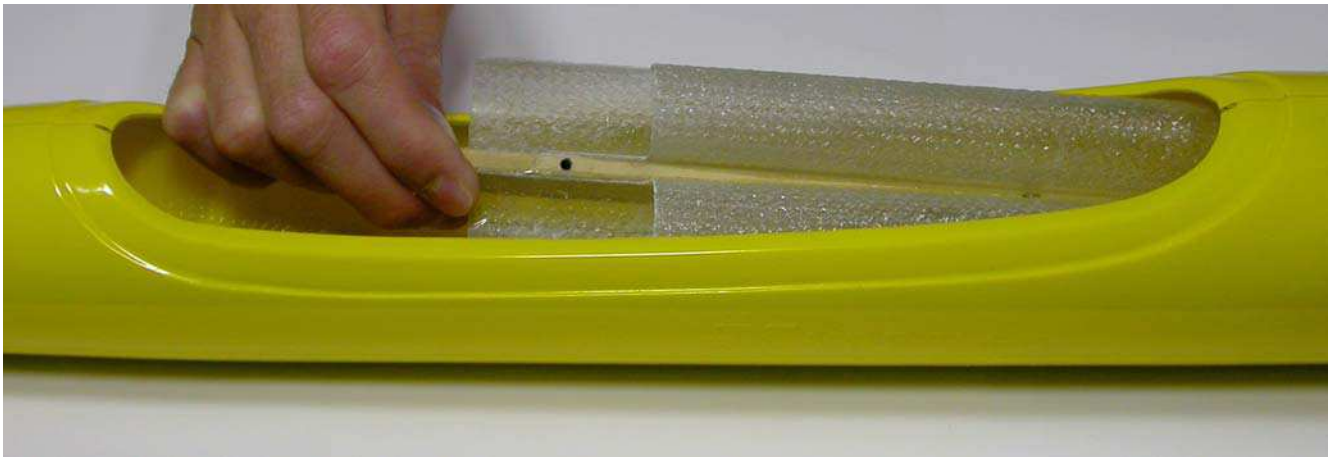

Fig.80: Insert the ballast holding tube structure into the fuselage.
- before that the epoxy dries, insert the structure into the fuselage as shown in figure 80 (be careful: don't smear the external side of the fuselage);